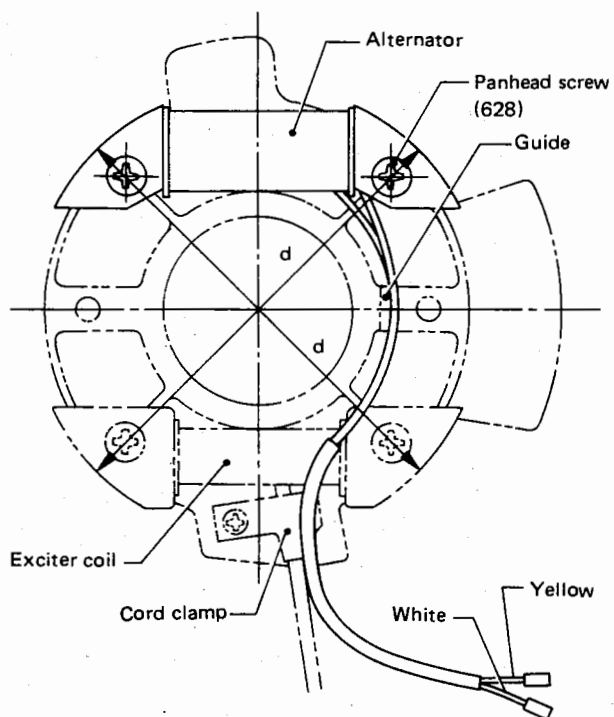

Fig.2.1
- 2) Secure the alternator with panhead screws (P628) furnished as accessory parts. Ensure that the diagonal dimension "d" (Fig. 2.1) is within $119.1^{+0}_{-0.2}$ mm ($4.689^{+0}_{-0.008}$ in).